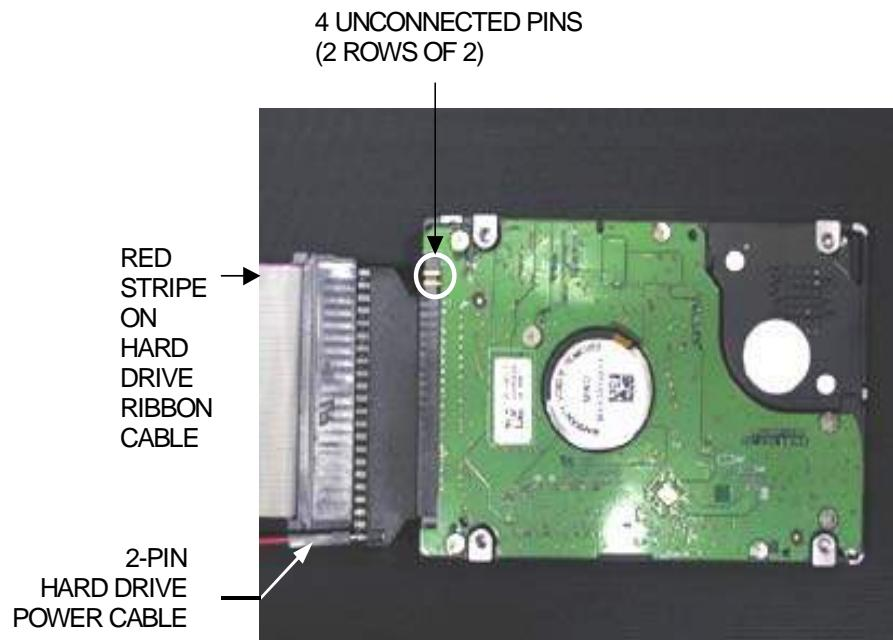

FIGURE 4-CIRCUIT-BOARD SIDE OF HARD DRIVE
4. Connect the hard drive cables to the hard drive. *If your Fusion has a hard drive ribbon cable:* note that 4 pins on the hard drive are set off and will remain unconnected. Make certain that the red stripe on the ribbon cable, indicating pin-1 position, is inserted facing the unconnected pins, and on the opposite side of the 2-pin hard drive power cable. See Figure 4.